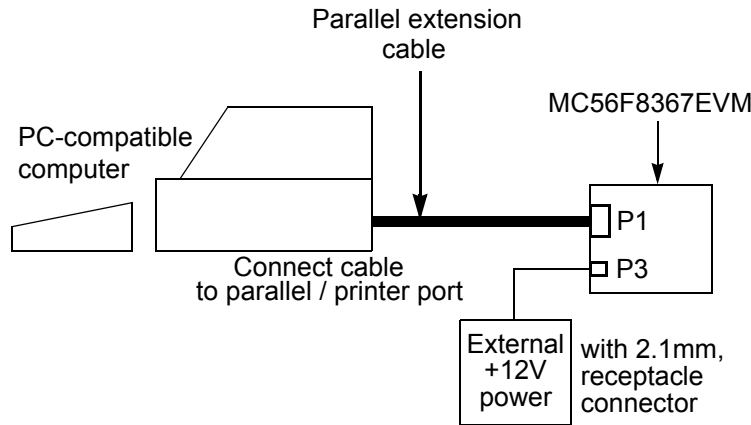

Figure 1-3. Connecting the 56F8367EVM Cables
An interconnection diagram is shown in Figure 1-3 for connecting the PC and the external +12.0V DC/AC power supply to the 56F8367EVM board.
2. Connect the other end of the parallel extension cable to P1, shown in Figure 1-3, on the 56F8367EVM board. This provides the connection which allows the host computer to control the board.
4. Connect the 2.1mm output power plug from the external power supply into P3, shown in Figure 1-3, on the 56F8367EVM board.